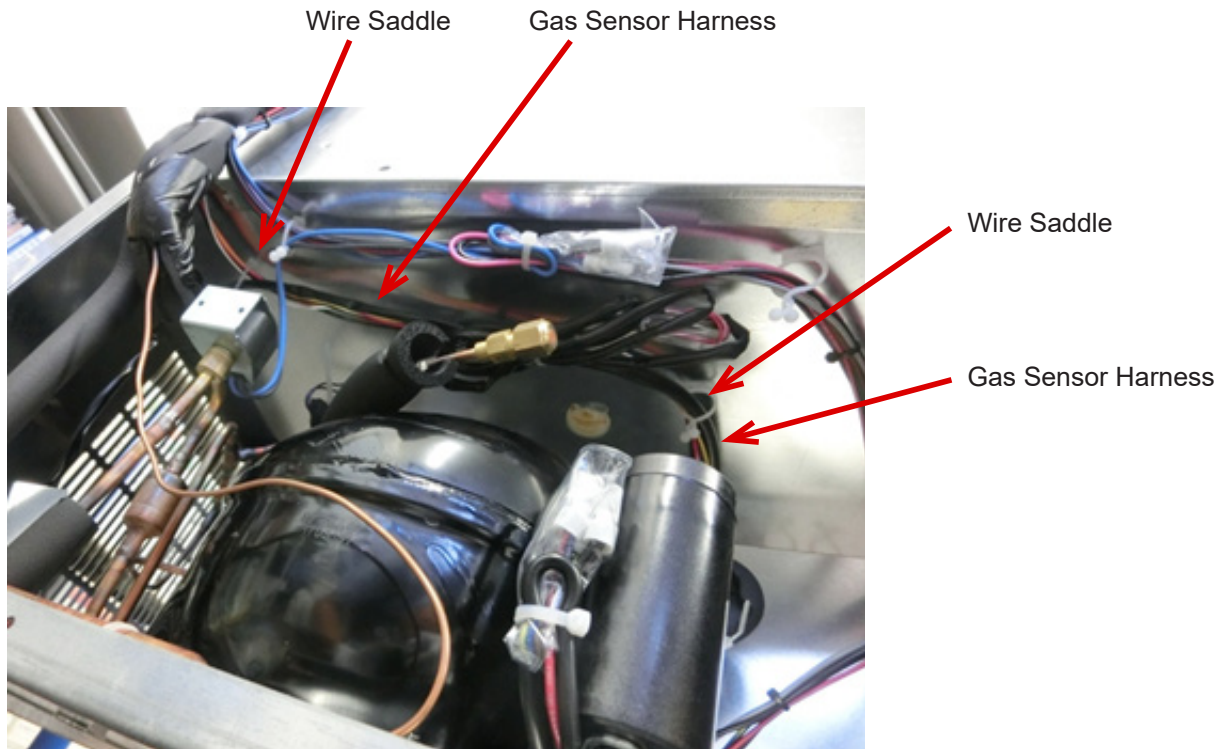

Fig. 40
16) Fix the gas sensor harness to the wire saddle as shown in Fig. 40.